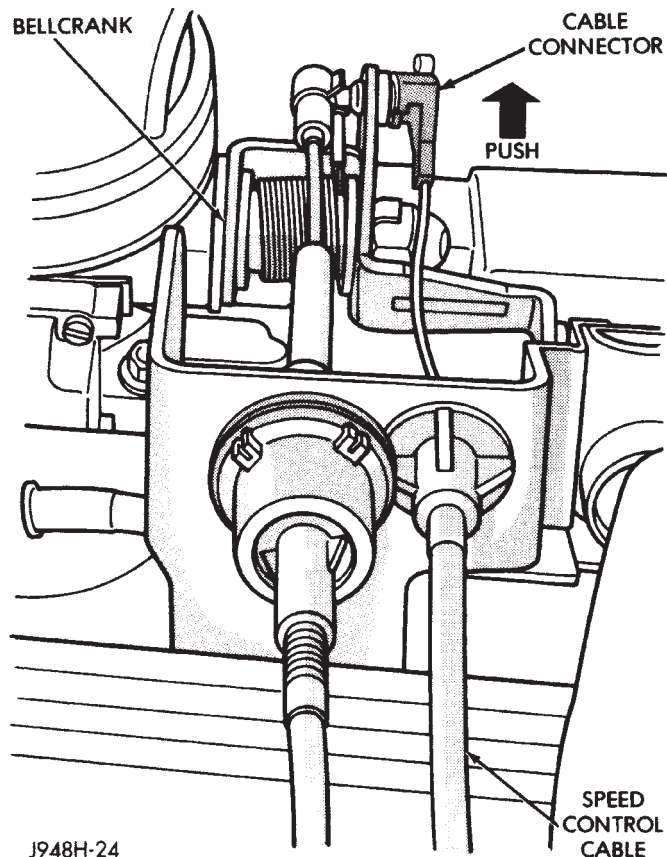

Fig. 6 Cable at Bell Crank—4.0L Engine
- (1) Disconnect negative battery cable at battery.
- (2) 4.0L Engine: Using finger pressure only, remove speed control cable connector at throttle body bellcrank pin by pushing connector off the bellcrank towards the drivers side of vehicle (Fig. 6). **DO NOT try to pull connector off perpendicular to the bellcrank pin. Connector will be broken.**